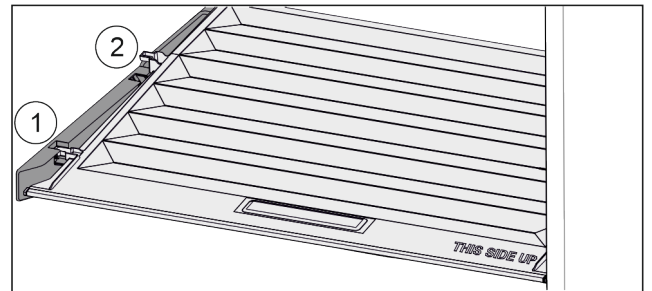

Fig. 73
- Pull the lid up at the front to the opening in the retaining parts Fig. 73 (1).
- Lift from the back and pull it up and out Fig. 73 (2).